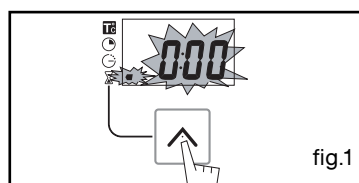

fig.1
- Press the “^” (fig.1) button until the timer symbol begins to flash